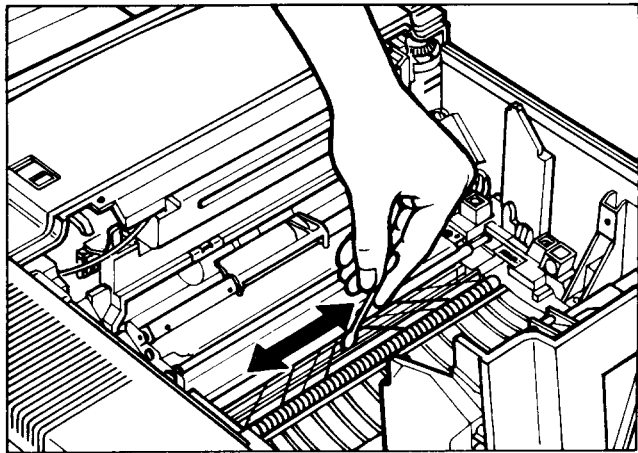

Fig. 10-21
• **Transfer corona wires** - Take a cotton swab and carefully wipe off the wires (Fig. 10-21, 10-22 & 10-23). Discard the swab.